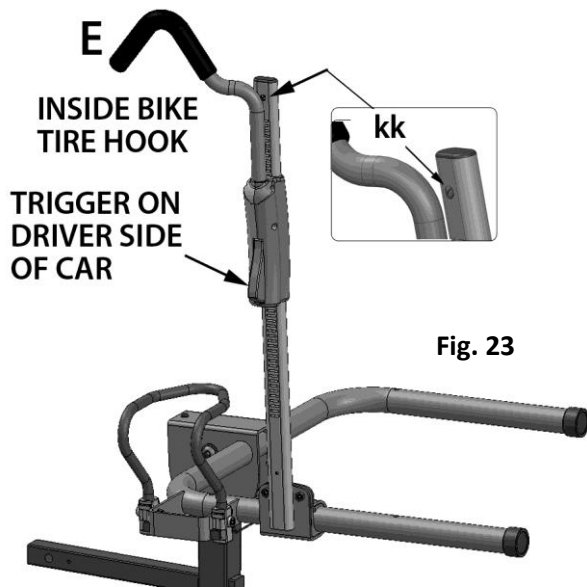

Fig. 23
**Per Fig. 23:** Prepare the tire hooks, washers **f-f** and screws **k-k** (Phillips screwdriver required). Use Inside Tire Hook **E** for inner bike position (closest to car). Slide the Inside Tire Hook **E** down over the outer ratchet arm. Note the trigger faces the driver's side of the vehicle. Hook will be centered over the rack's inside bike tire cage. Insert screw **k-k** into washer **f-f**. Install washer & screw into hole located at top of ratchet arms with screwdriver.